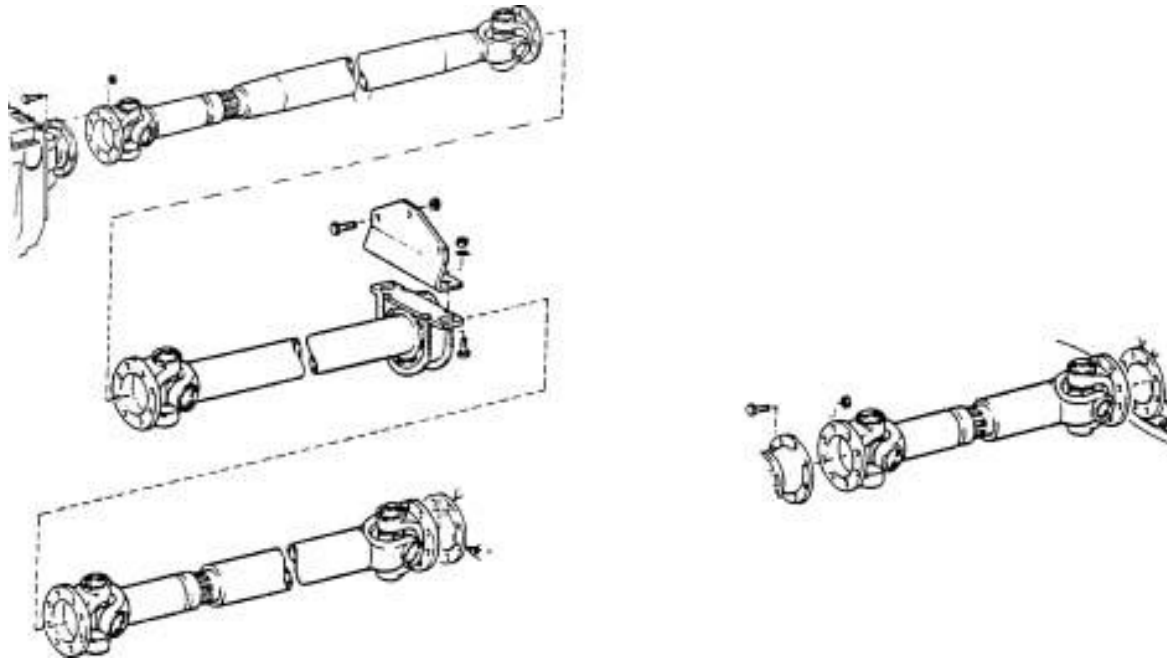

Fig. 6-5 Installation of propeller shaft on vehicle
1. When disassembling the telescopic propeller shaft, first of all it is essential to check if there are assembling marks between the propeller shaft telescopic joints. If there is no, do not disassemble until the marks are made as per Fig. 6-5. During assembling, reinstall them to their original positions according to marks so as to ensure the balance of propeller shaft.
8. When installing the single telescopic propeller shaft on the vehicle, the drive fork of the first universal joint must be in the same plane with the driven fork of the second universal joint. When the intermediate propeller shaft is linked with the telescopic propeller shaft, the universal joint must be in the same plane with the drive fork of the first universal joint. See Fig. 6-5.